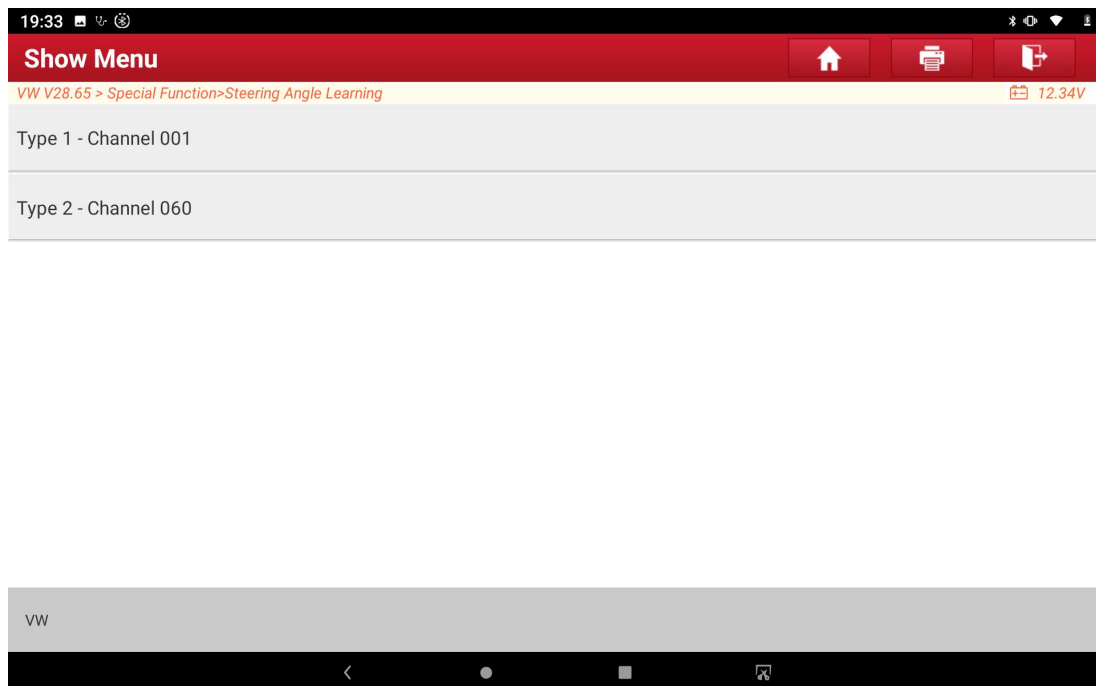

Figure 5
13. Execute [Zero steering angle-start basic settings], select channel number 060 for Volkswagen Golf, GTI, Jetta and Audi TT models; select channel 001 for Volkswagen Passat and Audi A4/S4, A6/S6, and A8/S8 models, If you select [Type 1-Channel 001], as shown in Figure 5: